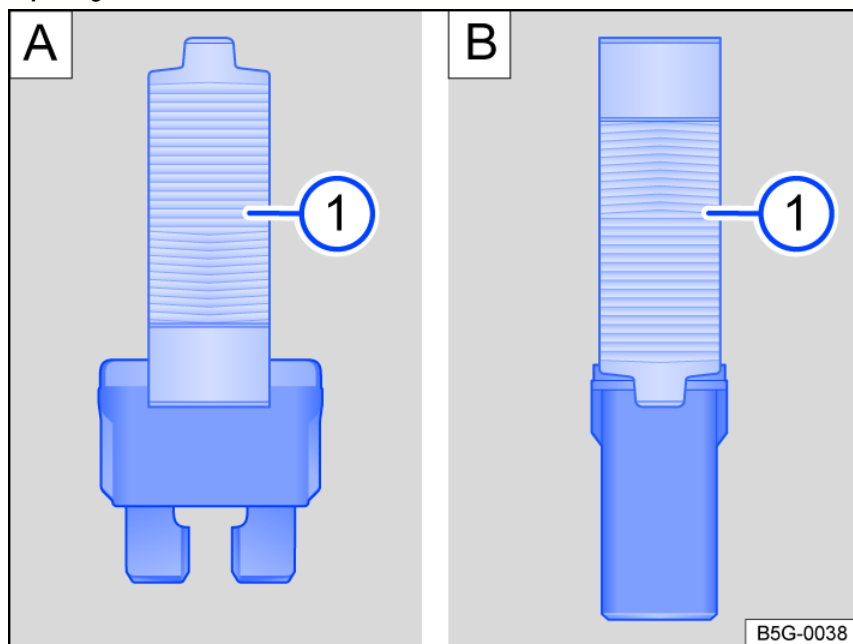

Fig. 178 Remove or install a fuse with the plastic pliers (general example).
① Plastic pliers.
1. Remove plastic tongs from either the fuse box or the cover of the fuse box *fig. 178* ①.
2. Depending on the design of the fuse, slide the appropriately sized clamp on the plastic pliers onto the fuse from above or from the side *fig. 178*.